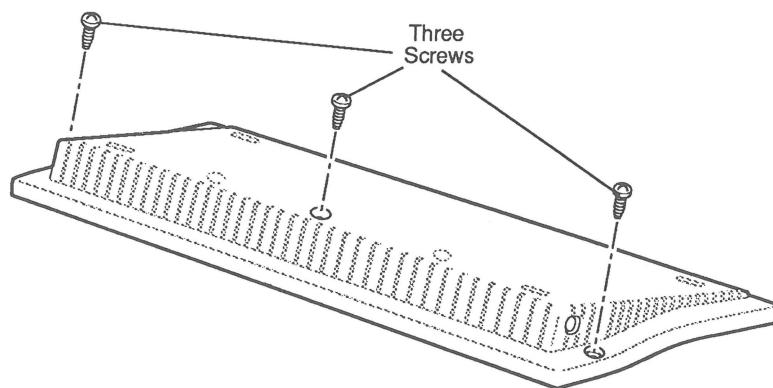

Figure 1-1 Apple Keyboard
4. For the Apple Keyboard, remove the three Phillips screws from the back of the keyboard (**Figure 1-1**), turn the keyboard face-up, and lift off the top plastic cover.